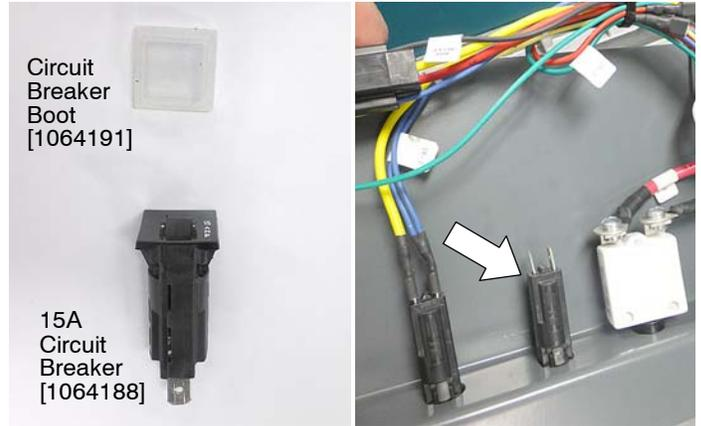

Fig. 17
- Install the 15A circuit breaker with boot into the circuit breaker panel as shown (Figure 17).